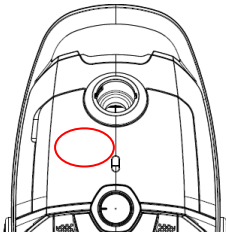

Fig 10
1. Change the dust bag: when the dust full indicator turns red or loss of suction is noticed, it is time to clear the dust bag or replace with a new bag. (Fig 10)